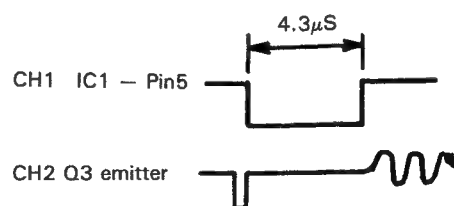

Fig. 7
1. Play the test disc, and adjust VR1 so that the pulse width of the signal output from IC1 pin 5 becomes  $4.3 \mu\text{sec} \pm 0.1 \mu\text{sec}$ . At this time, check that the H-Sync of the Q3 emitter is sliced. Fine adjust VR1 so that the burst level of the input video signal is not lost. (Fig. 7)